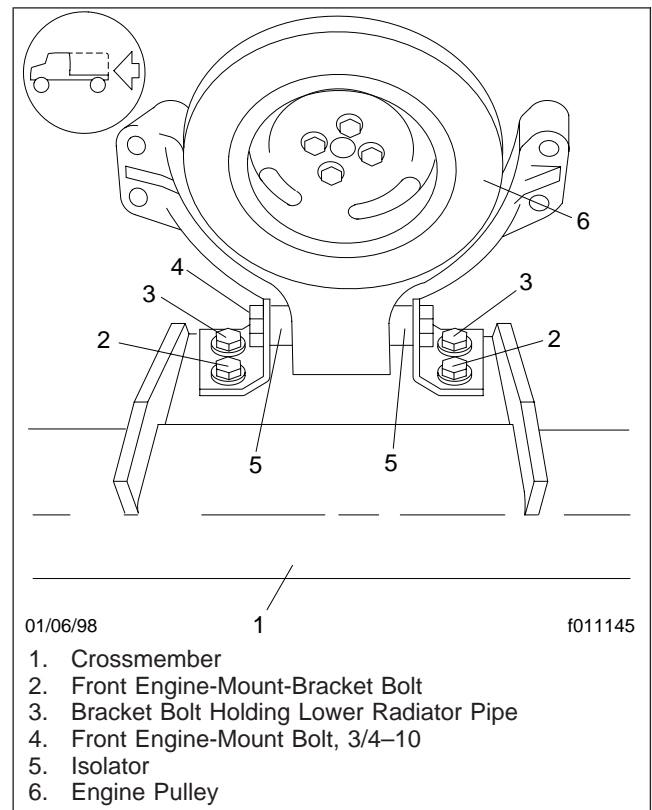

Fig. 2, Front Engine Mount (ISB rear-engine chassis built before 2002)
2. Check the 3/4-10 front engine-mount bolt. See Fig. 2. Tighten it 95 lbf-ft (128 N·m).